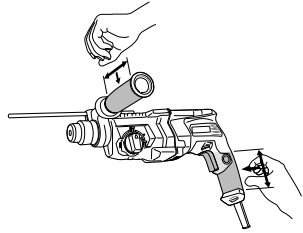

Fig. 17
- Make sure to securely hold the tool as shown in Fig. 17 during operation.